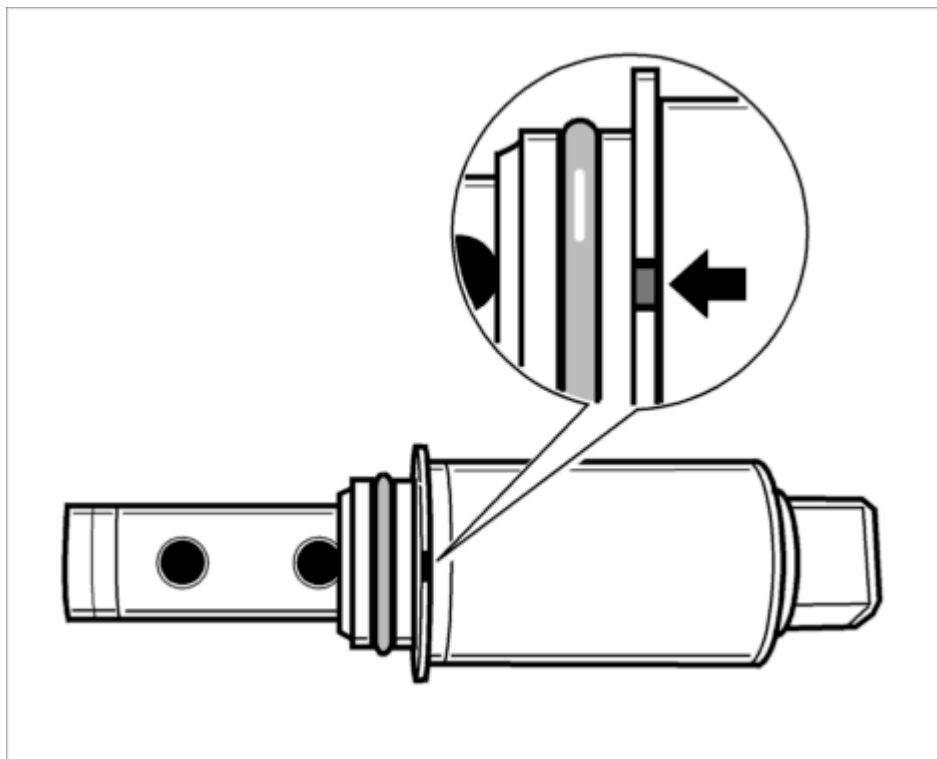

Fig. 165: Groove on valve for camshaft timing
2. Replace O-ring on the hydraulic valve and coat new O-ring with engine oil. Insert hydraulic valve into the cylinder head. Pay attention to installation position while doing this. The groove on the valve **-arrow-** points to the dowel pin in the cylinder head. See **Fig. 165**.